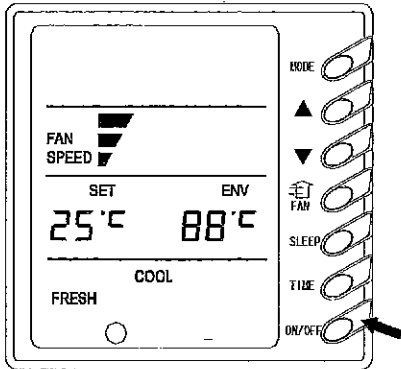

Fig 2
1) Turning On/Off Unit (Figure 2)